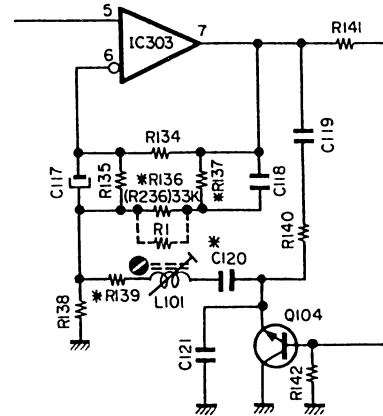

Fig. 6.3.9
- b) If compensation is still insufficient, add resistor R1 2.2 M $\Omega$  – 560 k $\Omega$  in parallel to R136 (R236) on the Record Eq. Amp. P.C.B. Ass'y as shown in Fig. 6.3.9. When 560 k $\Omega$  is added, approx. 0.3 dB will be compensated.